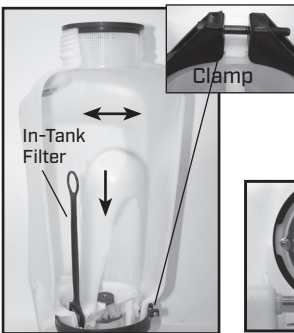

Figure 1
5. Remove the large clamp holding the pressure chamber and tank together (fig 1).
6. Rock the pressure chamber back and forth and push down to free it from the tank (fig 1).